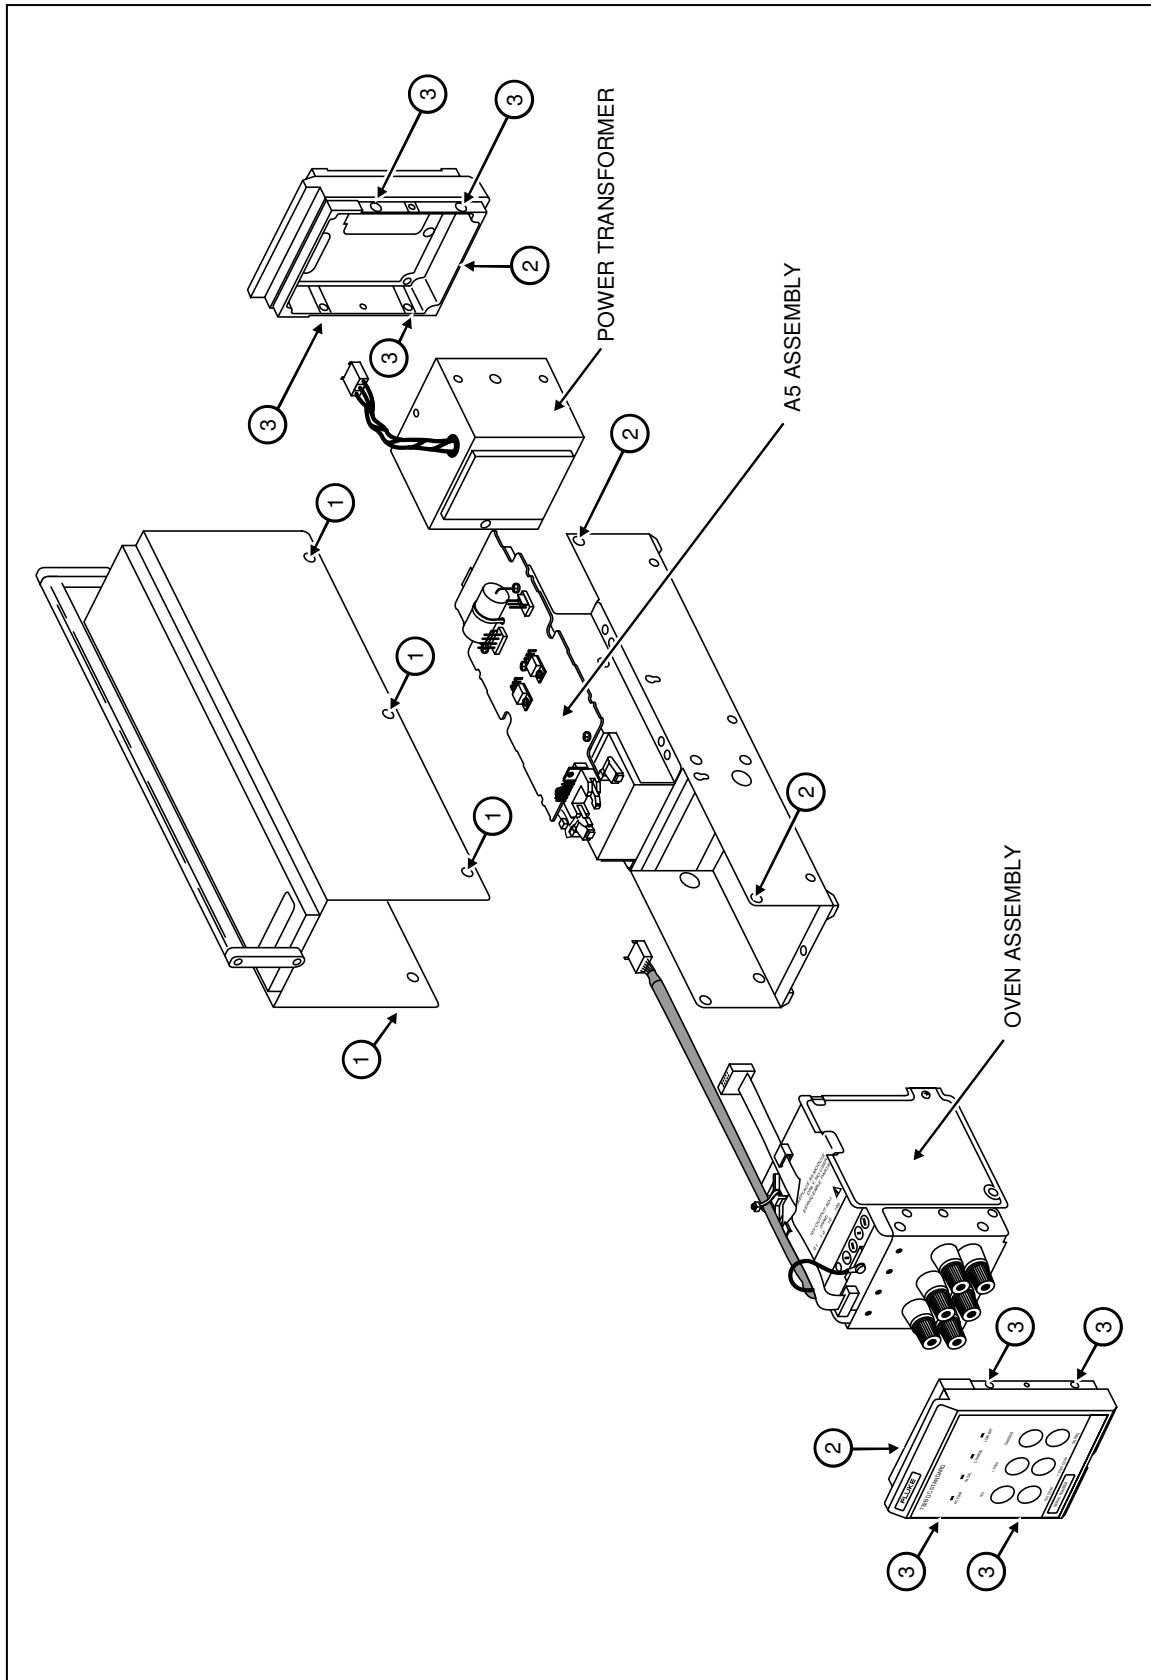

Figure 5-3. Accessing Internal Components
Refer to Figure 5-3 and proceed as follows to remove the 732B cover and prepare to access internal components:
3. Refer to Figure 5-3 and remove the three screws that fasten the front panel and oven to the chassis (one on each side and one on the bottom).